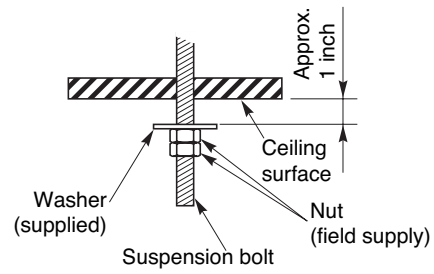

Fig. 3-82
(7) Suspend the indoor unit as follows.
- (a) Mount a washer and two hexagonal nuts on each suspension bolt as shown in Fig. 3-82.